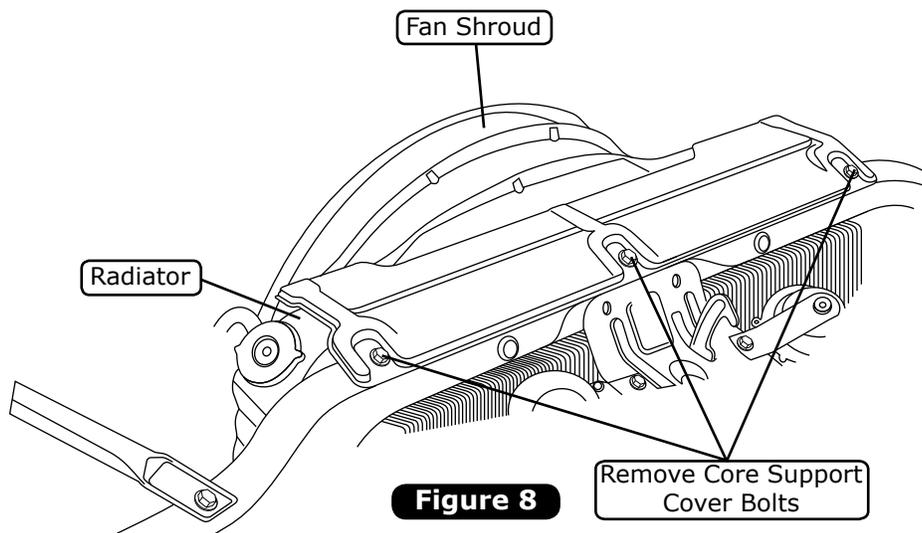

Figure 8
2. Remove the core support cover (See Figure 8, below).
3. Remove radiator and fan shroud (See Figure 8, below).